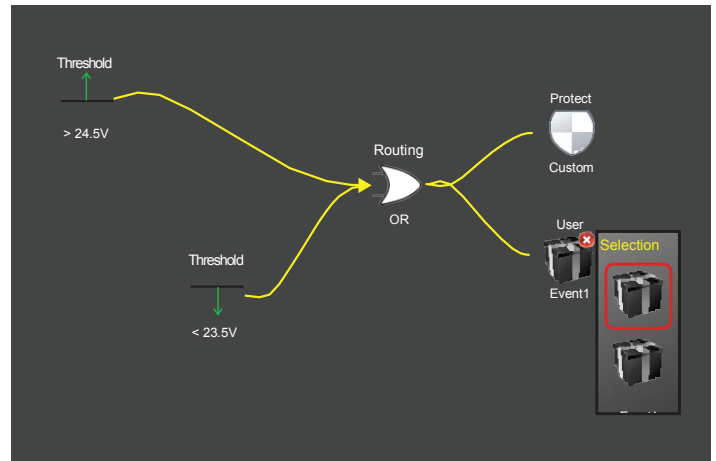

Figure 4. Configuring a trigger expression with the N7906A Power Assistant software.
- Perform trigger routing and configure logical trigger expressions (see Figure 4)